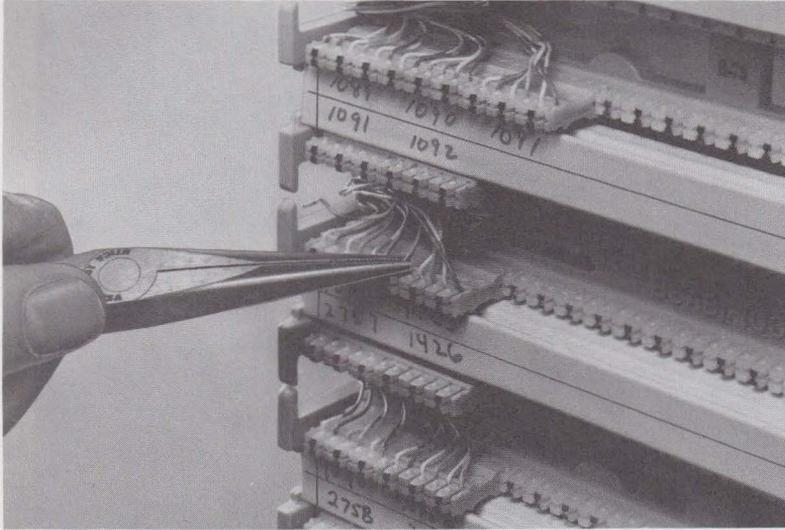

Fig. 23—Removing Cross-Connect Wire
3.21 To remove a cross-connect wire, use long-nose pliers to grip the wire where it enters the connecting block (Fig. 23) and pull straight out. Remove any fragments of insulation remaining on the clip or its cavity.